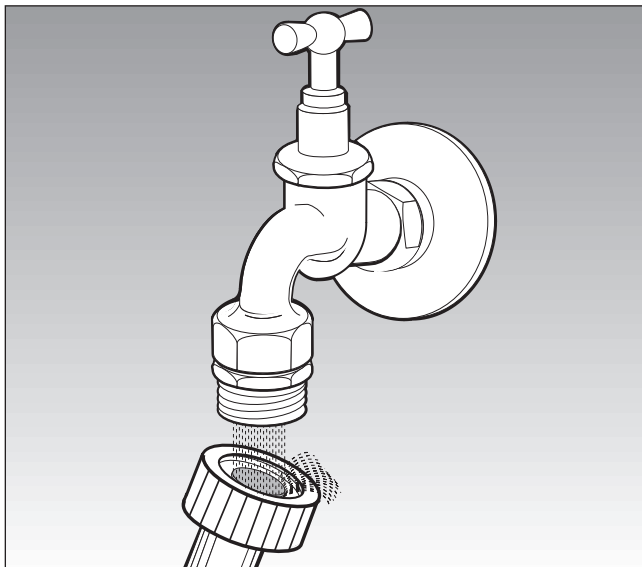

Figure 18.
3. Unscrew the hose from the tap and rinse the filter under running water. See Figure 18.